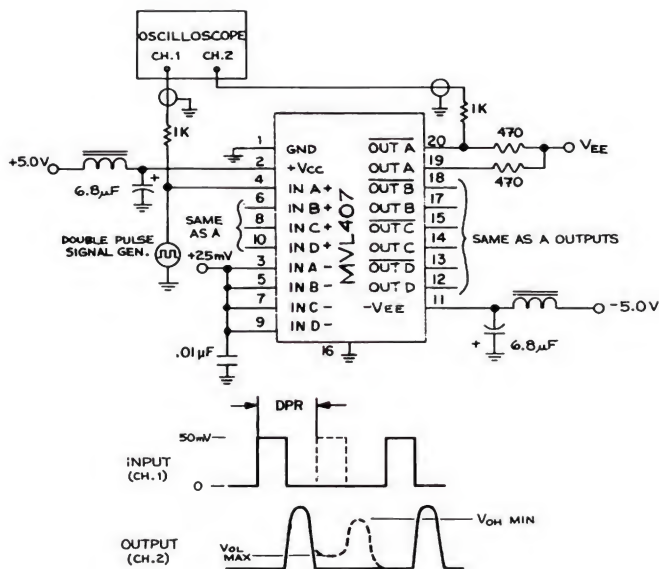

Figure 5
3. Double pulse resolution is defined as the minimum pulse pair spacing at which the MVL407 responds to the second pulse of the pair. The output levels of the second pulse must cross V_{OH} and V_{OL} . See Figure 5.
The width of input pulses is adjusted to the minimum which will provide a full amplitude output. Delay of second pulse is reduced until a degradation of output amplitude is noted. The closest spacing of the input pulse pair which will produce a second pulse of full output amplitude is the double pulse resolution (Figure 5).